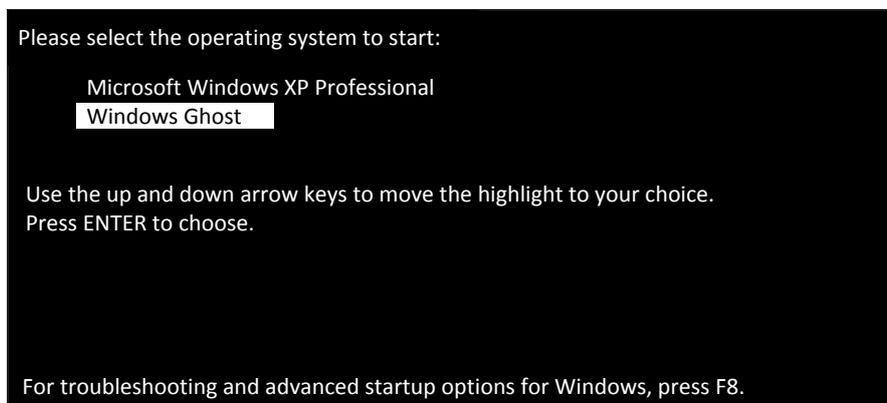

Fig. 5-5 Select “Windows Ghost” operating system
- 1) Power on the machine, access the operating system choice interface, and select “Windows Ghost”, as shown in Fig. 5-5.